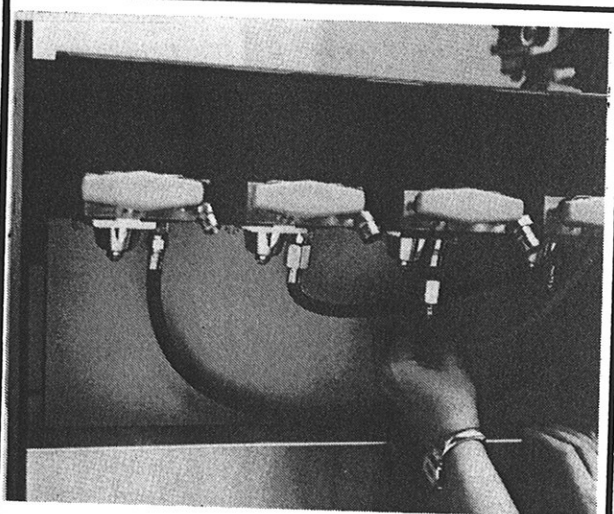

Figure 21.
3. Disconnect the internal high pressure hose from the Gas Supply Module (see Figure 21).